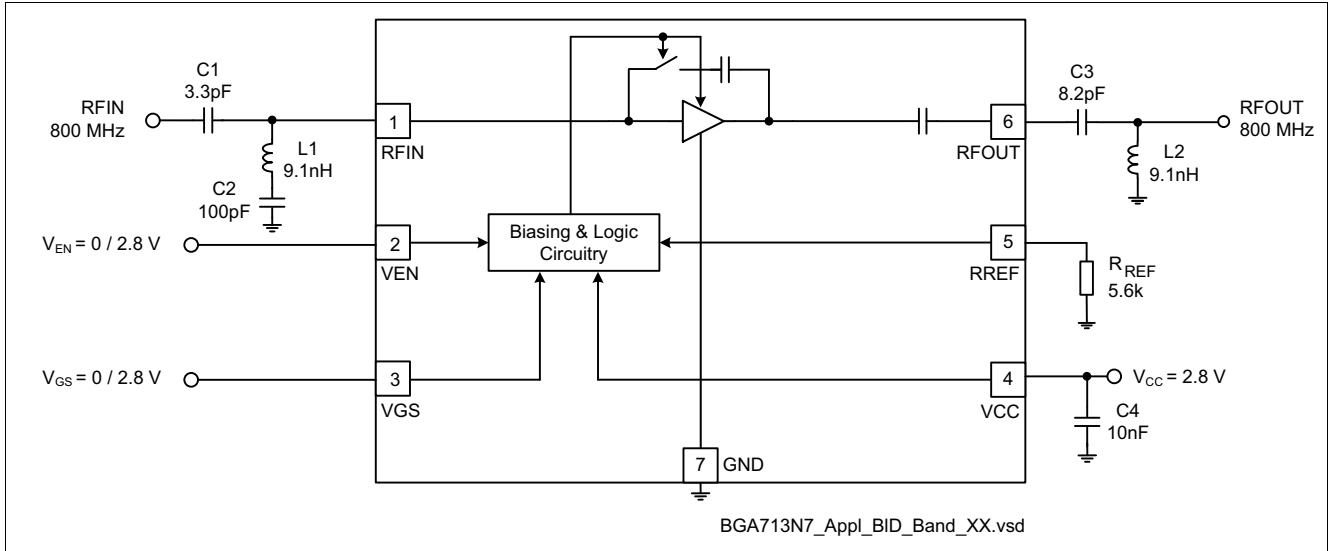

Figure 4 Application Circuit with Chip Outline (top view)
1) Performance based on application circuit in Figure 4 on Page 21